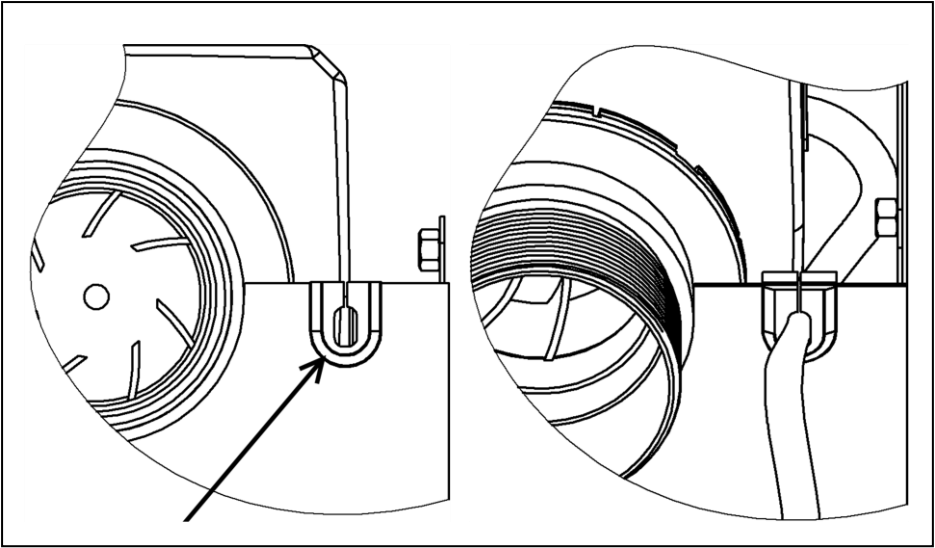

Figure 5
4. Insert the rubber seal into the notch and insert the wiring harness of the heater (Figure 5).